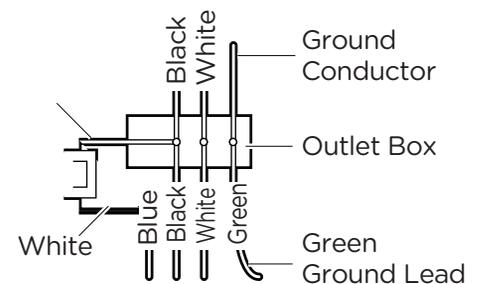

Figure 9
⑨
- Loosen the two downrod set screws on the coupling (fig. 9).
- Tighten the two downrod set screws on the coupling (fig. 9).
If you wish to control the light from a wall switch and the fan from the pull chain switch or if you wish to control both fan and light from wall switches, refer to the wiring diagrams in Figures 9 and 10.